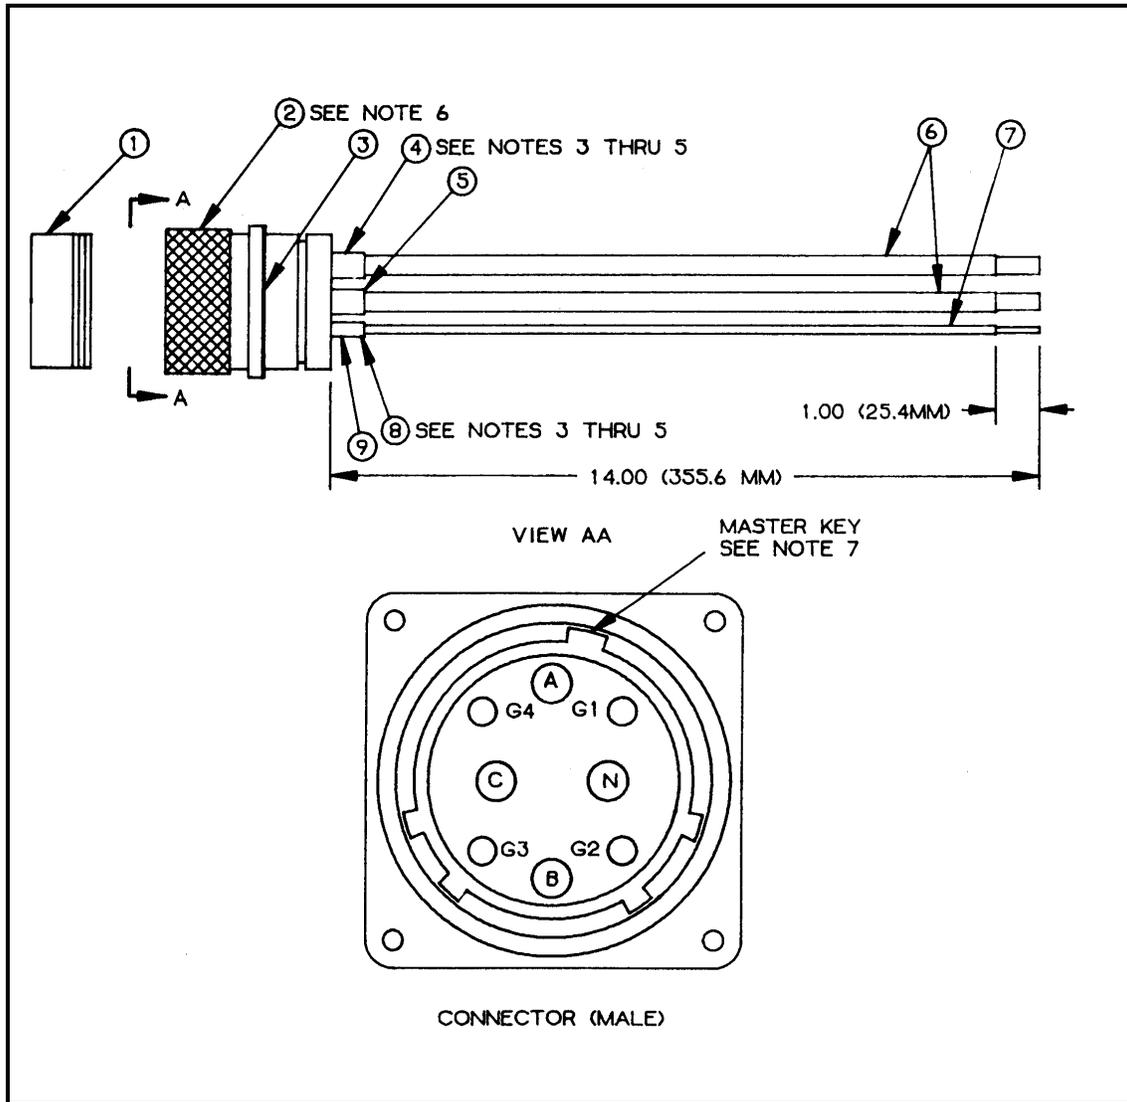

Figure F-6. 100-Amp, Input Connector Assembly, (J1)
Component Legend for Figure F-6
- c. Electrical connector (Figure F-6, Item 2) is furnished with the following: